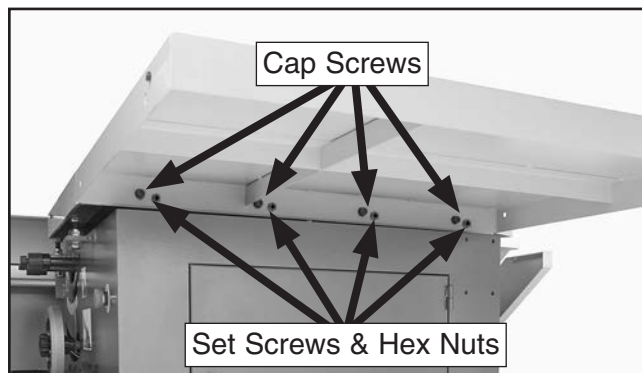

Figure 33. Large extension table attached.
16. Loosely attach the large extension table to the back of the cast iron table with four M10-1.5 x 20 cap screws, four 10mm lock washers, and four 10mm flat washers, as shown in **Figure 33**. **Note:** *The cap screws will be tightened during a later step.*
17. Thread an M10-1.5 hex nut onto each of four M10-1.5 x 20 set screws, then thread each of the set screws into the small holes in the large extension table, as shown in **Figure 33**. Make sure the set screws do not stick out from the mating surface.